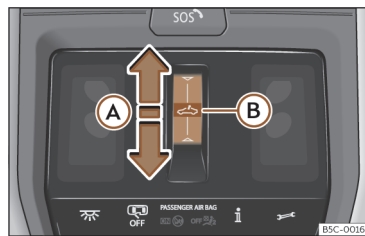

Fig. 82 On the interior roof lining: sunroof button.
- Automatic movement: slide your finger back over the functional area  >>> **Fig. 82 A**.
- Before approx. 5 seconds after activation of the anti-trap function, slide your finger forward over the functional area  >>> **Fig. 82** (A) and keep pressed until the sunroof is fully closed.